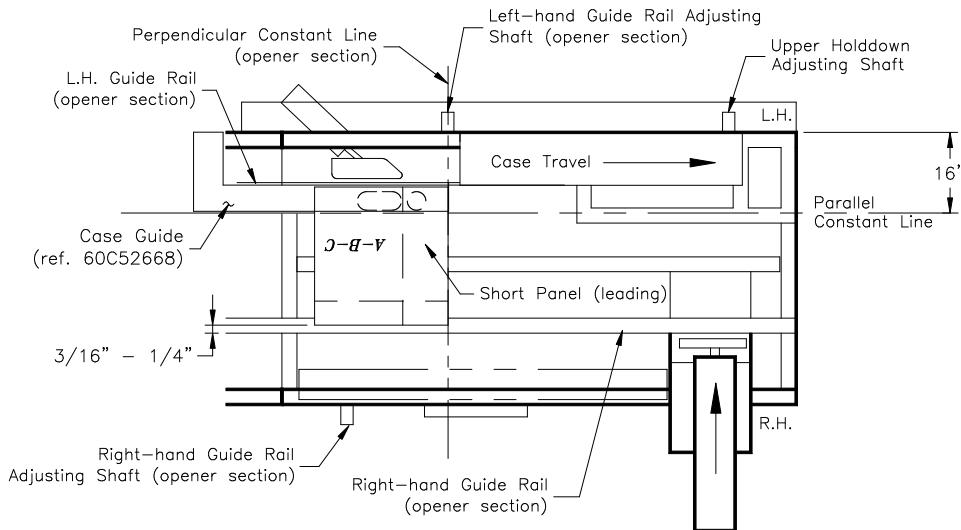
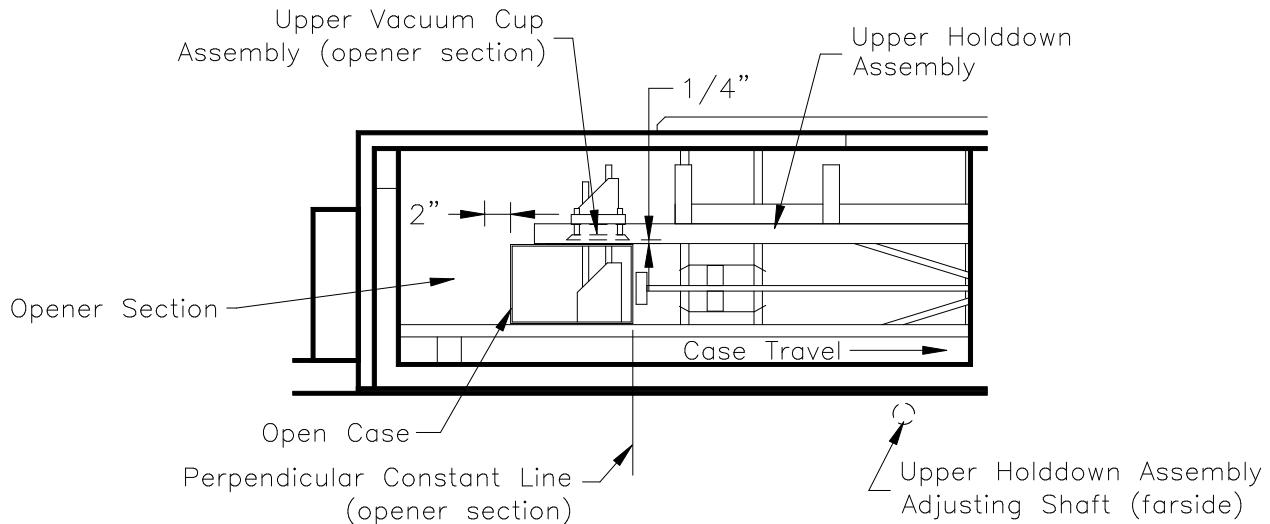
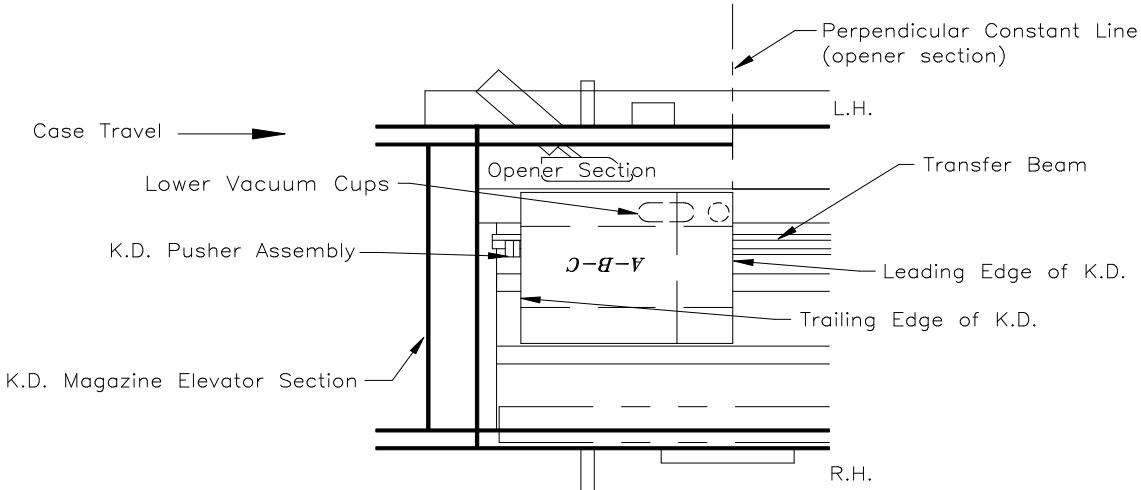

FIGURE 4.2 - ADJUSTING FOR DIFFERENT CASE SIZES
FIGURE 4.3 - ADJUSTING FOR K.D. IN ERECT POSITION
FIGURE 4.6 - ADJUSTING K.D. PUSHER ASSEMBLY
- Starting in the opening section, place one K.D. (with the short panel of the K.D. leading) in between the guide rails so that the bottom score line is laying along the parallel constant line of the machine (16" parallel to the left-hand side of the machine). See figure 4.2.
- Adjust the left hand guide rail in this section by using the adjusting crank handle to turn the adjusting shaft (on left hand side of the machine to the rear of the opener section) until the left hand guide rail is just up against the bottom flap. See figure 4.2.
- Now go to the right hand side of the machine and use the adjusting crank handle to turn the adjusting shaft (on the right-hand side of the machine directly across from the opener section) until the right hand guide rail is $3/16" - 1/4"$ away from the top flap of the K.D. See figure 4.3.
- Go back to the left hand side of the machine and move the K.D. so that the leading edge is on the perpendicular constant line of the opener section (a scribe line located $3/16"$ past the clearance hole for last lower vacuum cup). See figure 4.2.
- While maintaining the position of the K.D. in relation to the previously mentioned constant lines (references figure 4.2), erect the K.D. so that it is a fully opened case. Adjust the upper hold-down assembly by using the adjusting crank handle to turn the adjusting shaft (on left hand side closest to the discharge end of the machine) until the hold-down assembly is resting on top of the case. There should be just enough pressure to stabilize the case as it is pushed through the machine. See figure 4.3.
- Use the adjusting handles on the opening upper vacuum cup assembly to set the vacuum cup so that it is $1/4"$ above the upper hold-down assembly. Ensure also that the vacuum cup is set toward the leading portion of the upper major flap rather than the rear portion of that flap. The upper vacuum cup must also be level and parallel to the travel machine. See figure 4.3.
- Now go back to the opener section and loosen the bolts on the K.D. pusher assembly (green hook) at the end of the transfer beam and pull it, with the transfer beam held still, towards the K.D. magazine elevator. See figure 4.6.
- Place a K.D. in the opener section so that the leading edge of the flap (not the body) is on the perpendicular constant line of the opener section (a scribe line located 3/16" past the last clearance hole for the lower vacuum cup - reference figure 4.2) Loosen the bolts on the opener K.D. stop (green hook located on the transfer beam) and move it up against the trailing edge of the K.D. and retighten the K.D. pusher. See figure 4.6.